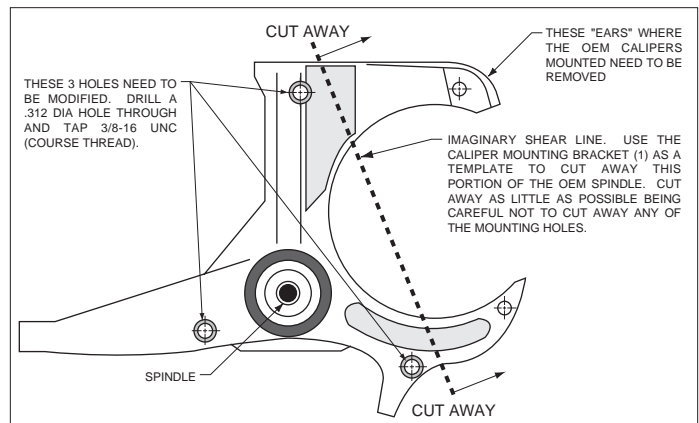

Figure 2. Typical Steering Arm / Spindle Modifications (your spindle may vary in looks from diagram)
- Review the wheel clearance diagram (figure 2, page 4) to verify that there is adequate clearance with the wheels you will be using with the installation. This kit will result in the wheels being moved out approximately 1/8" beyond the stock location.
- The following spindle modifications should be performed by a qualified machinist. Refer to Figure 2 as necessary. Only one view of the steering arm/spindle is shown, but the modifications need to be performed on both steering arm/spindles.